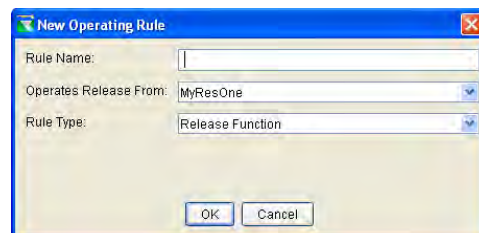

Figure 24 – New Operating Rule
- **Operation Rules.** To add a rule to a zone, highlight the appropriate zone and select **New** from the **Rule** menu. In the new rule window (Figure 24), enter a name for the rule, then select the pool, dam, outlet, or outlet group for which the rule will apply (**Operates Release From**), then select the rule type from the **Rule Type** list, and then click **OK** [Sections 11.4 and 11.5].